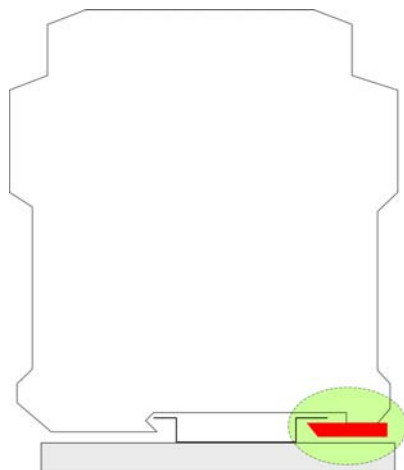

Figure 11.12 Locking device of top hat rail power supply unit
- Secure the top hat rail power supply unit with one hand and pull the locking device away from the component using a size 0.8 x 4 flat-bladed screwdriver, refer to Figure 11.12.